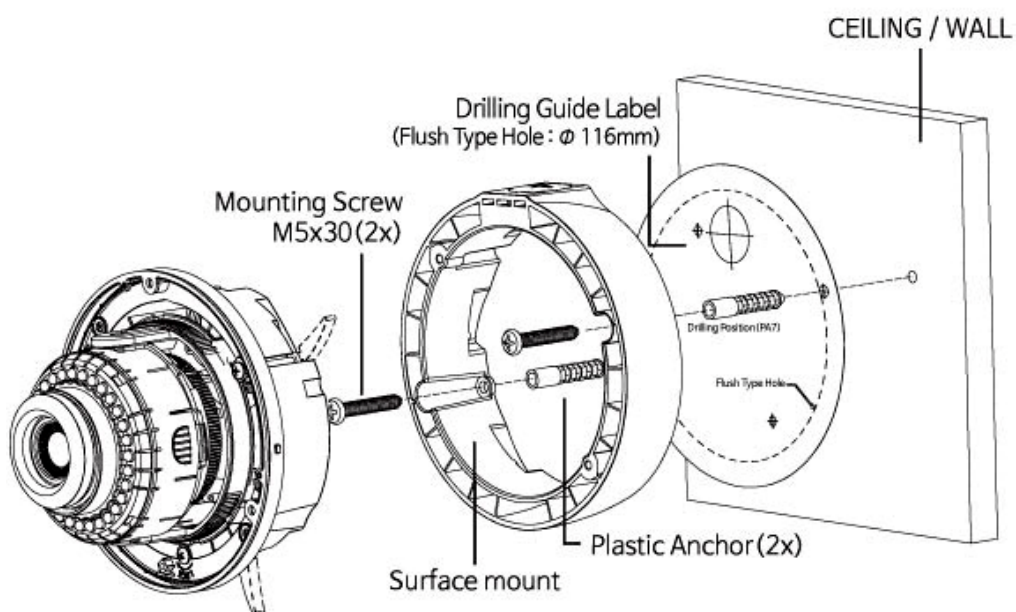

Figure 2
3. Attach the surface Mount to the ceiling or wall using suitable fasteners. The supplied M5x30 tapping screws are used only if they are applicable. (Fig. 2)